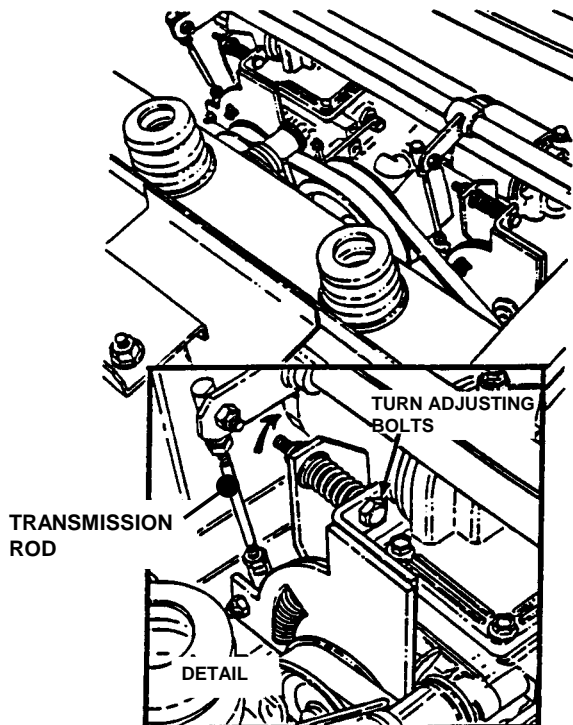

FIGURE 5.1
7. If wheel(s) are rotating, disconnect transmission control rods from cross shaft and turn adjusting bolts located on pump(s) clockwise, or counter-clockwise, until wheel(s) stop rotating. See Figure 5.1.